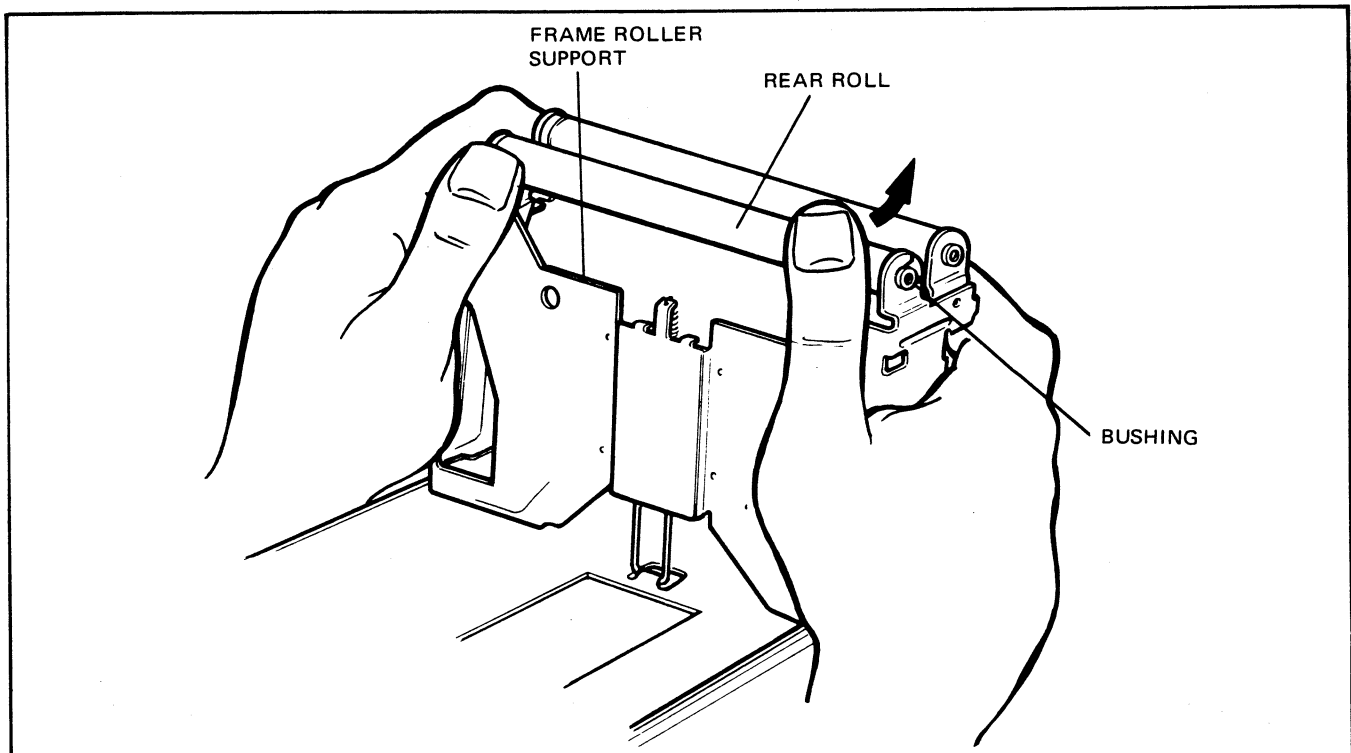

FIG. 5.5 REMOVING THE REAR ROLL
1. Open the rear door, unlatch the rollers and remove the rear roll (Figure 5-5): Hold the frame roller support and press firmly against the rear roll. Apply an upward force against one end of the roll until the roll and bushings disengage from the support.